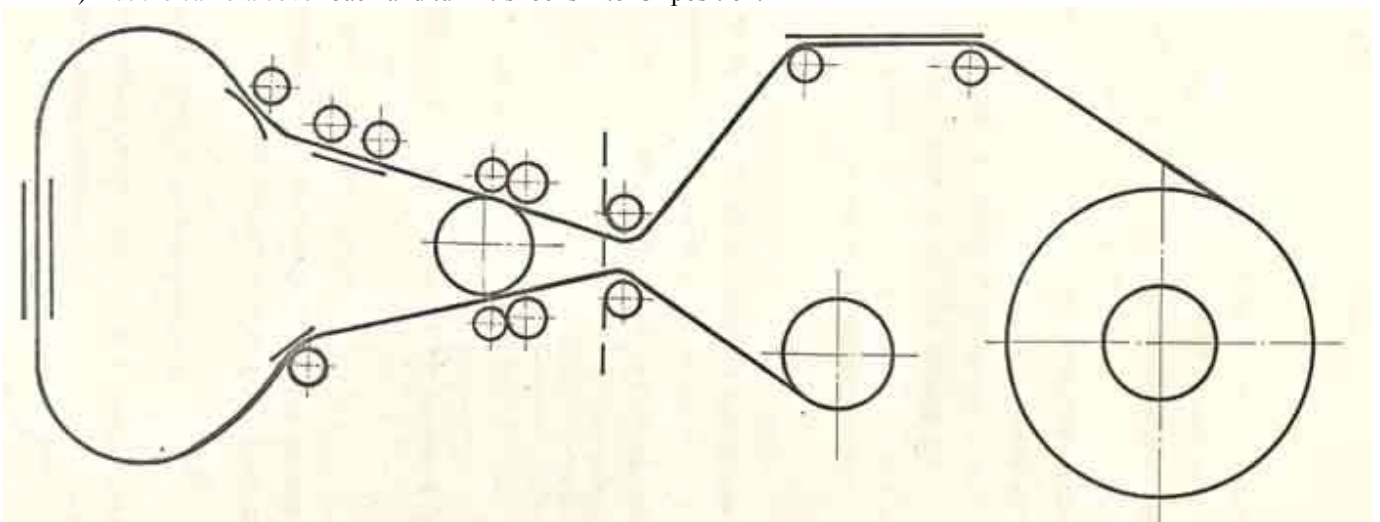

Figure 36. Camera loading
- 3) load the camera in accordance with the Figure 36;
Load the mag in dark room in accordance with Figure 36:
- 6) Unscrew holders of the carriages (85), (86) and pull them from the sprocket;
- 7) Mount a mag onto guiding rods of the camera passing the film loop through the film channel and along the film track as shown on the Figure 36;